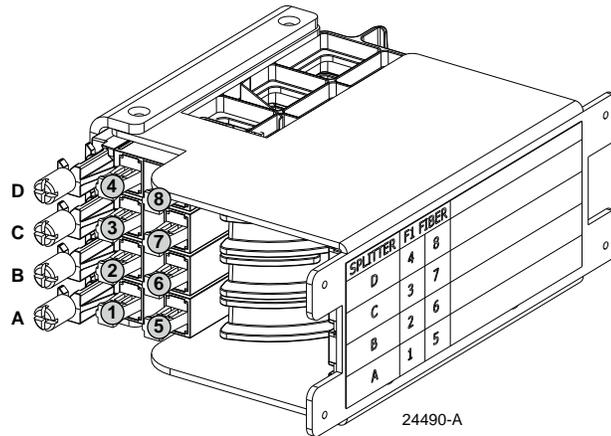

Figure 49. Splitter Input Port Designations
*The eight fibers in MPO adapter ports 3 – 10 are used for the splitter inputs. Ports 1 – 2 and 11 – 12 are not used. The splitter input port designations are shown in Figure 49.
*The eight fibers in MPO adapter ports 1 – 8 are used for the splitter inputs. Ports 9 – 12 are not used. The splitter input port designations are shown in Figure 49.